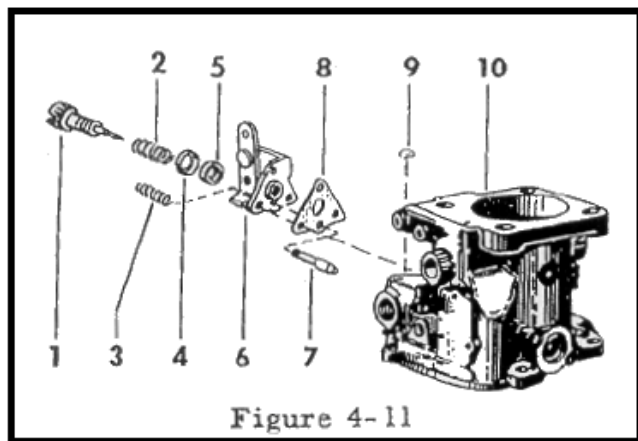

Figure 4-11
- a. Altitude (manual mixture control) parts (2 through 13, figure 2-19) are not used in this carburetor. The expansion plug (9, figure 4-11) is used to close the opening in the body (10) where these parts would normally be installed.
- c. Parts having a different appearance from carburetor, Part No. A10-3063-2 are shown in figure 4-11. These parts include the idle adjusting needle (1), spring (2), retainer (4) and packing (5) plus an idle cut-off mechanism which consists of an idle cut-off valve (7), idle cut-off spring (3) and an operating lever, which is attached to the idle cut-off lever and retainer assembly (6). This lever is operated by a control from the aircraft. When the lever is operated to apply pressure on the idle cut-off valve (7) and spring (3), the valve is forced into the idle passage and completely cuts off the idle mixture from the carburetor bore.
- c. When installing the idle cut-off valve (7, figure 4-11) and idle adjusting needle parts, replace them in the order shown in figure 4-11. After installing the idle cut-off valve (7), gasket (8) and idle cut-off lever and retainer assembly (6), move lever on the retainer assembly to expose the hole and insert the idle cut-off spring (3). Rotate the lever back to its original position to retain the spring. Also be sure to place the packing (5) in the retainer (4) before installing the idle adjusting needle (1) and spring (2).